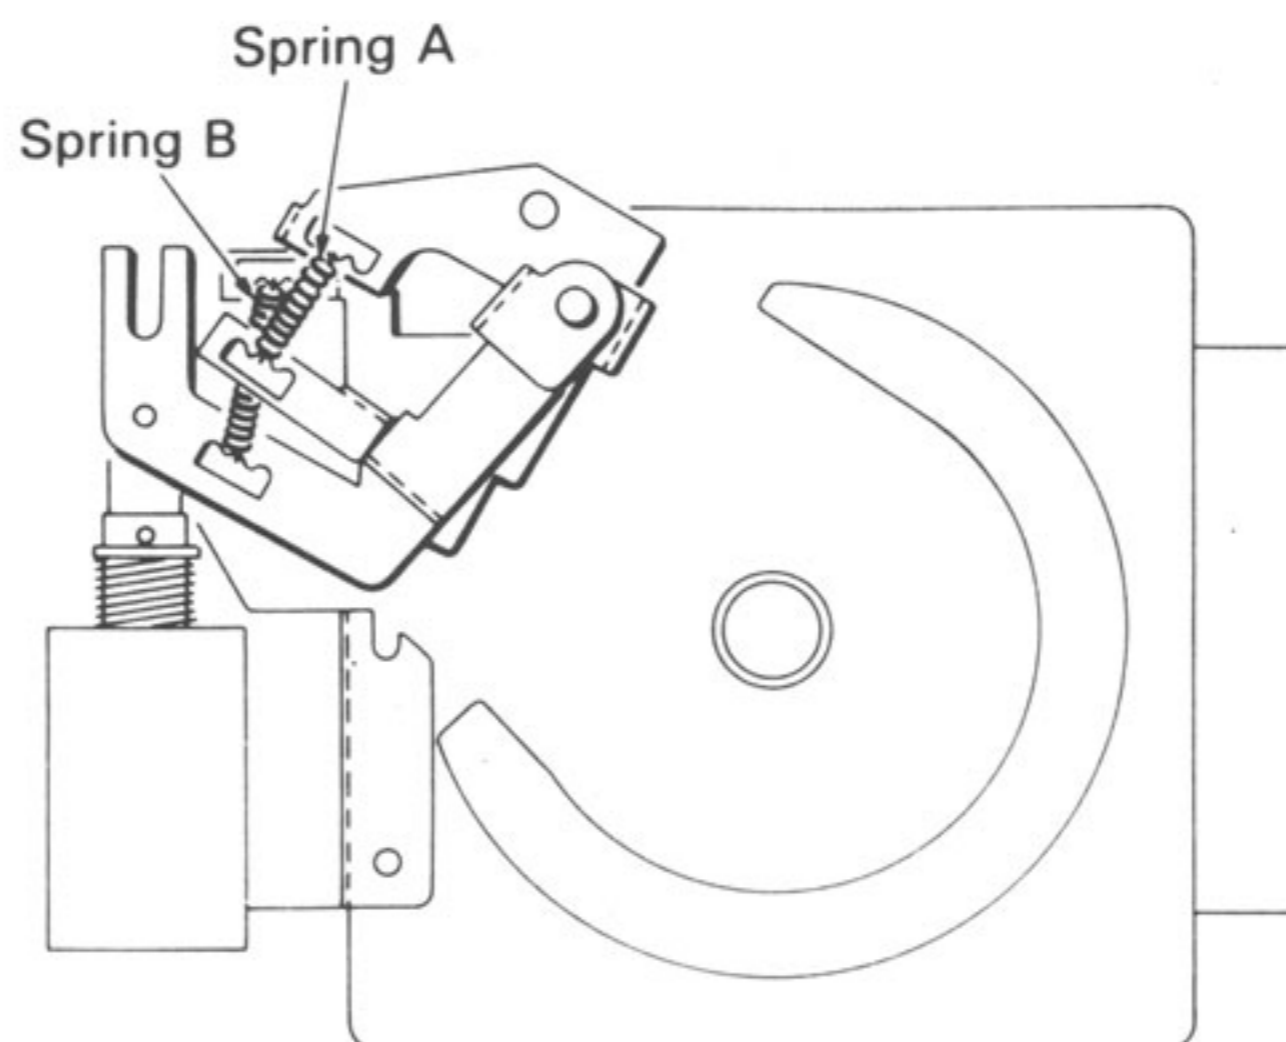

Figure 6-16. Torque Adjustment
- STEP 4.** To increase the brake torque, move spring A as shown in Figure 6-16 away from the motor; to reduce the torque, move the spring in the opposite direction.
- STEP 7.** To increase the brake torque, move spring B as shown in Figure 6-16 away from the motor; to reduce the torque, move the spring in the opposite direction.